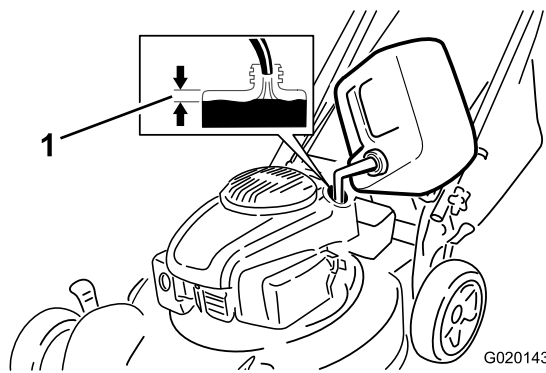

Figure 7
Fill the fuel tank with fresh unleaded regular gasoline from a major name-brand service station (Figure 7).
2. Fill the fuel tank, leaving at least 1 cm (1/2 inch) from the bottom of the neck empty to allow the gasoline room to expand (Figure 7).